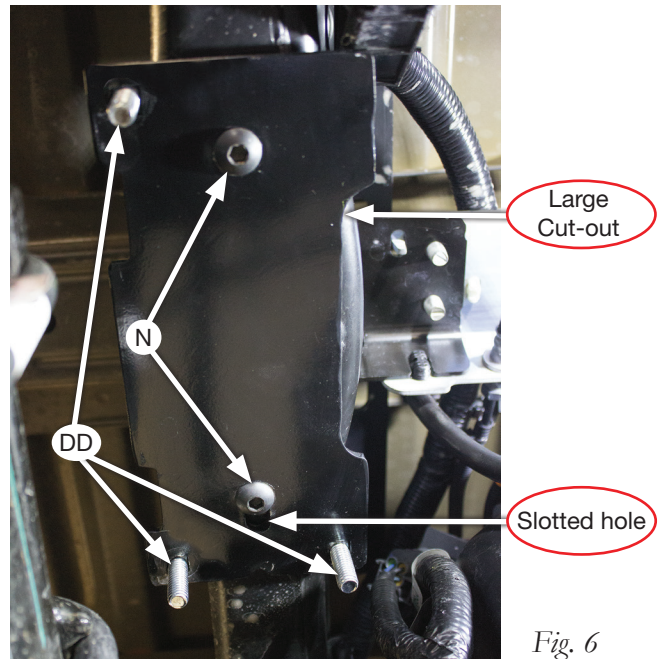

Fig. 6
4. Insert three (3) 3/8"-16 x 1" carriage bolts (DD) into the upper frame bracket (D). Install the upper frame bracket onto the frame using (2) M10-1.5 x 35mm button-head cap screws (N) so that the large cut-out on the side of the bracket is inboard of the frame rail and the slotted hole in the center is forward (Fig. 6). Torque hardware to 38 lb.-ft. (52Nm).